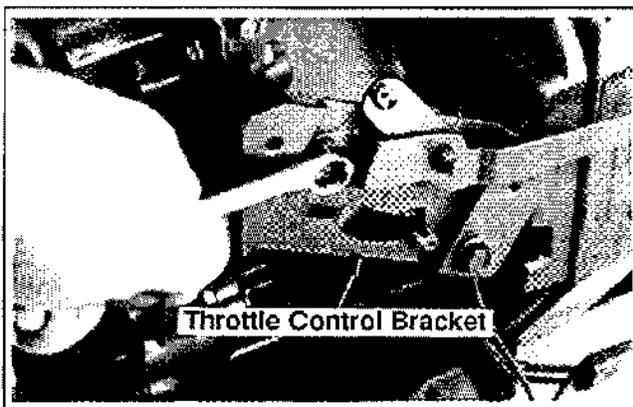

Figure 9-15. Removing Throttle Control Bracket.
1. Remove two hex flange screws from throttle control bracket. See Figure 9-15.